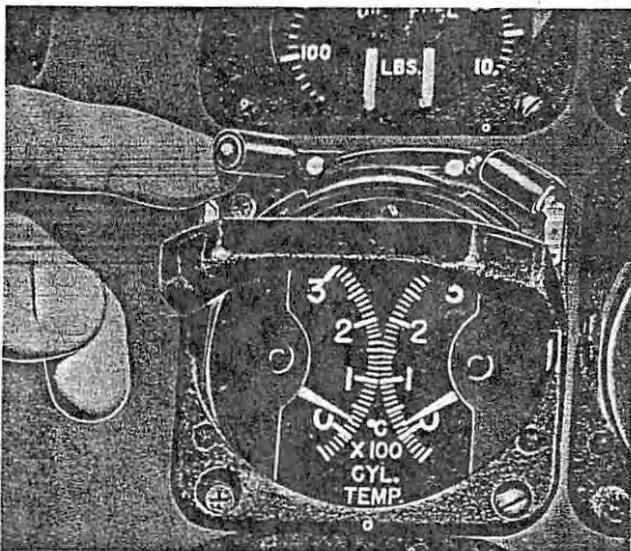

Figure 7-4. Instrument Lamp Replacement
- b. To remove individual instrument lamp (figure 7-4), first fold down upper half of light shield. Swing base of lamp holder away from ground contact and pull holder plug from socket. Using fingernail or knife blade, lift lamp from holder. Press new lamp into holder, install holder plug in its socket and swing base into position against ground contact. Raise cover and snap back into place.